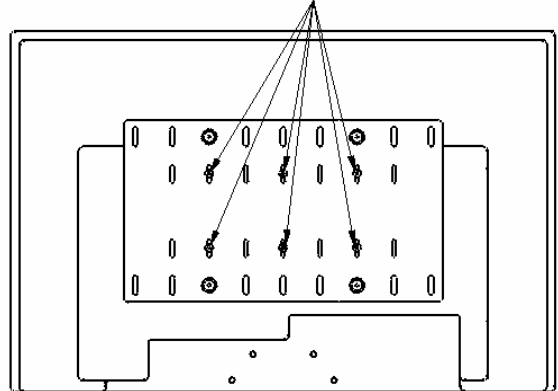

Figure 6. Display with 200mm x 100mm Hole Pattern
2. Attach the MSP-DELMsBV (10) using the hole-pattern on the back of your display as shown in Figure 6.